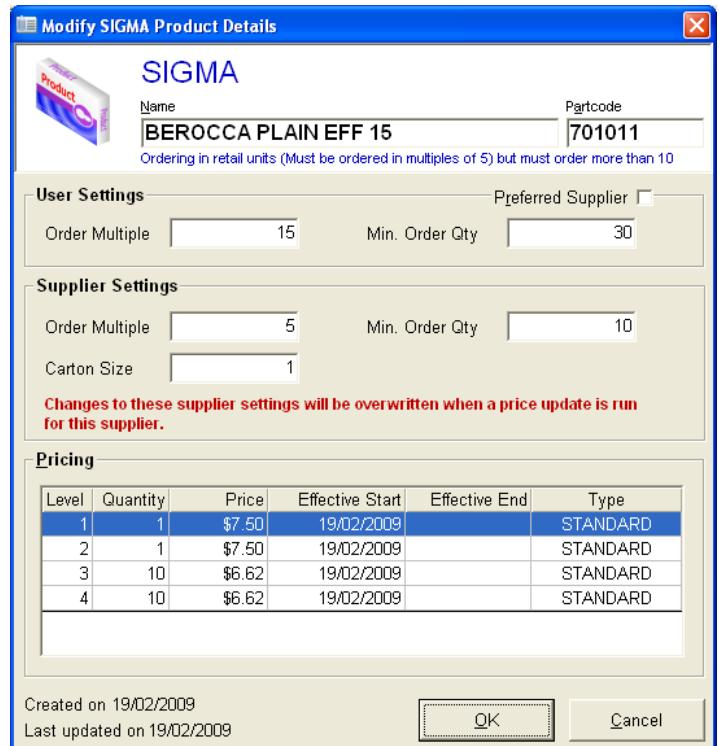

Figure 132
1. Access the Supplier/Partcode window from Stock Cards → Edit drop-down menu → Supplier/Partcode → Modify Supplier/Partcode (see Figure 132).